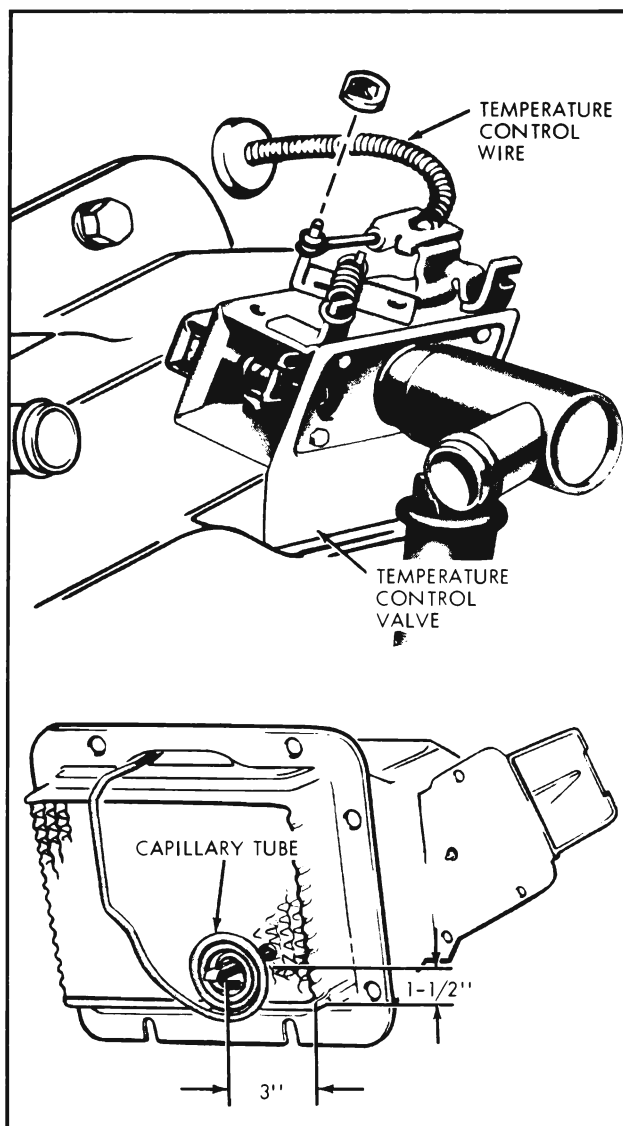

Figure 11-17—Temperature Control Valve
2. Remove inlet hose from temperature control valve and outlet hose from heater core. See Figure 11-17.